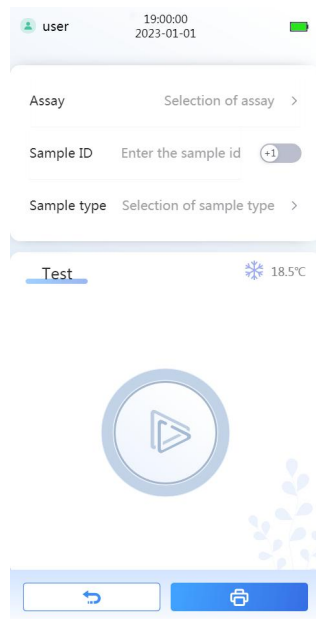

Figure 7 Testing interface
1. After the power-on initialization is completed or after clicking the [Test] button on the main interface, enter the main test interface (Figure 7 below).